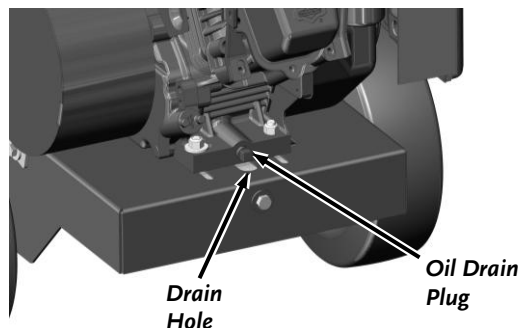
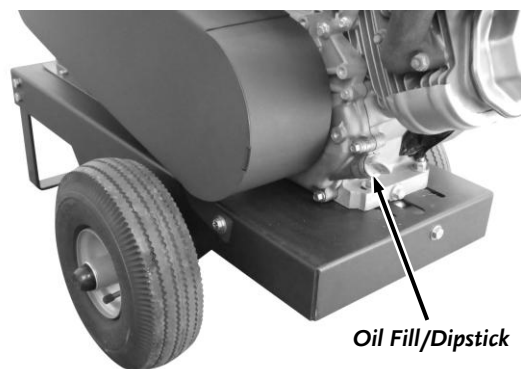

Figure 21
Figure 22
1. Position a suitable oil receptacle under the machine below the engine oil Drain Plug (**Figure 21**) and remove the engine oil Dipstick (**Figure 22**).
2. Remove the Oil Drain Plug from the Engine (**Figure 21**). Allow the used oil to drain completely, and then replace the Oil Drain Plug.